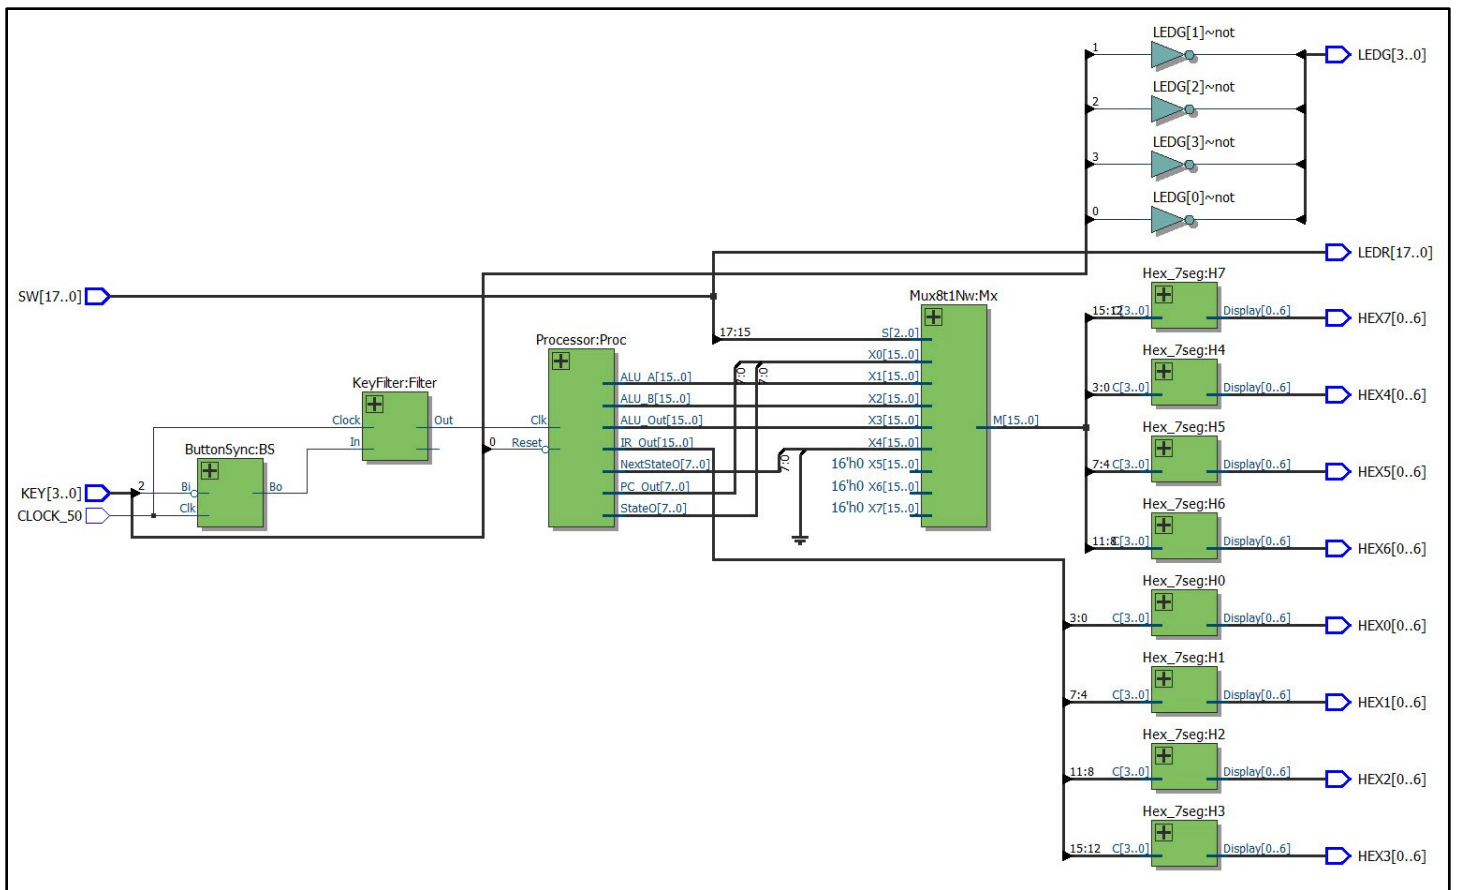

Figure 1. Top-level RTL View
- Your top level module (LabB) should instantiate a processor module, a multiplexer for selecting displays and a key conditioner (described below). Your top level RTL view should look very close to Figure 1, below.